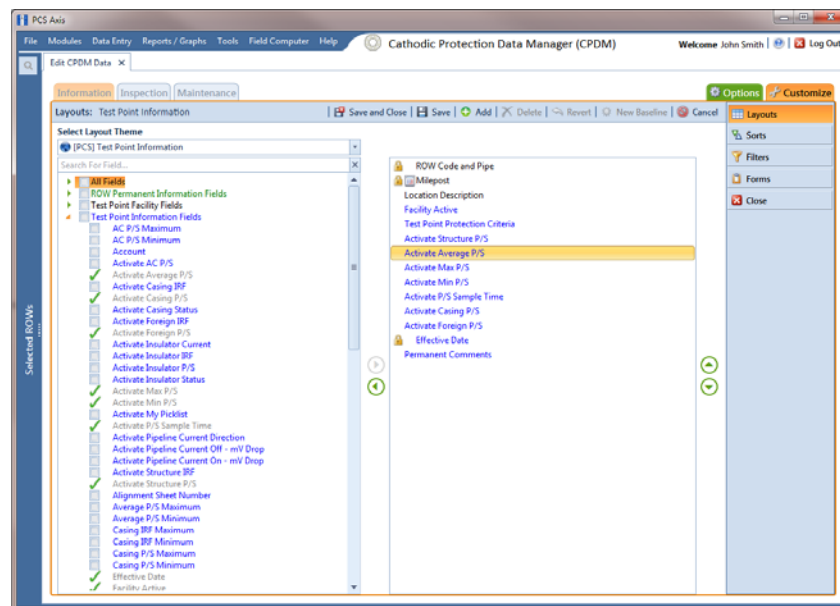

Figure 8-13. Layouts
- 4 Click the **Customize** tab  to open the *Layouts* page (Figure 8-13, page 361).